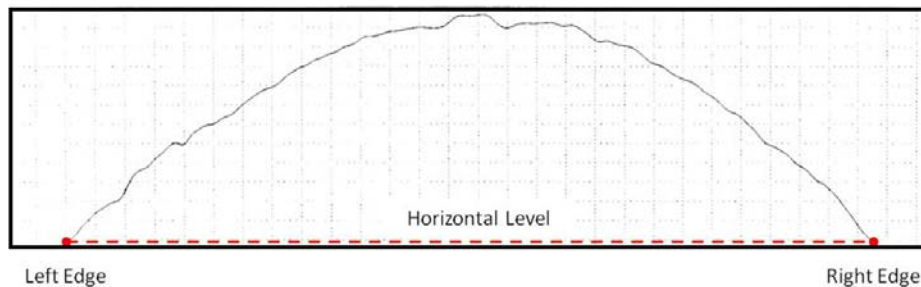

Figure 7 - Leveling the Lifter Profile Trace
- 4.9.1. Adjust the trace until its left and right edges are on the same horizontal level (as shown in Figure 7).